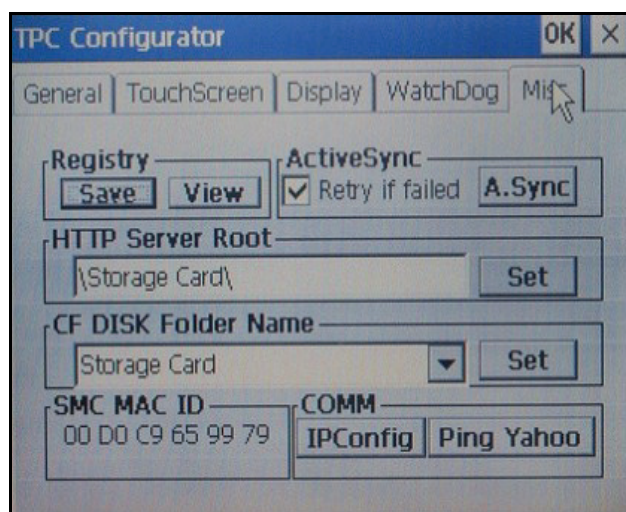

Figure 6-23
- The setting will now need to be saved to flash. Press the “Misc” tab to display the window shown in Figure 6-23 below.